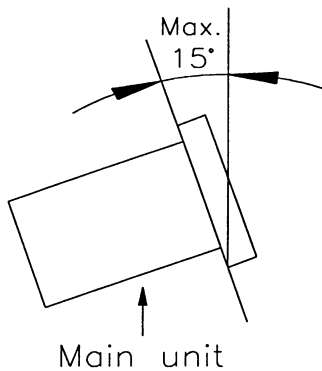

Fig. 1
- The player will work normally when the main unit is mounted with the front panel within 15 degrees of the vertical plane. If the unit is tilted excessively, discs may not be loaded or unloaded properly. **(Figure 1)**